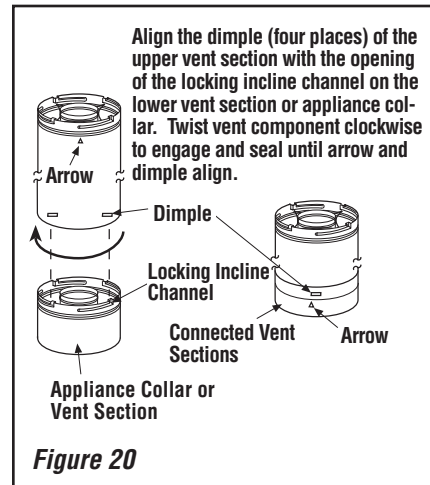

Figure 20
B. Attach vent components to appliance - Secure Vent SV4.5 direct vent system components are unitized concentric pipe components featuring positive twist lock connections (*see Figure 20*). All of the appliances covered in this document are fitted with collars having locking inclined channels. The dimpled end of the vent components fit over the appliance collar to create the positive twist lock connection.
To attach a vent component to the appliance collar, align the dimpled end over the collar, adjusting the radial alignment until the four locking dimples are aligned with the inlet of the four inclined channels on the collar (*refer to Figure 20*). Push the vent component against the collar until it fully engages, then twist the component clockwise, running the dimples down and along the incline channels until they seat at the end of the channels. The unitized design of the **Secure Vent** components will engage and seal both the inner and outer pipe without the need for sealant or screws. If desired a #6 x 1/2" screw may be used at the joint, but it not required as the pipe will securely lock when twisted.
C. Attach vent components to each other - Other vent sections may be added to the previously installed section in accordance with the requirements of the vertical vent Figures and Tables. To add another vent component to a length of vent run, align the dimpled end over the inclined channel end of the previously installed section, adjusting the radial alignment until the four locking dimples are aligned with the inlets of the four incline channels of the previous section. Push the vent component against the previous section until it fully engages, then twist the component clockwise running the dimples down and along the incline channels until they seat at the end of the channels. **This seating position is indicated by the alignment of the arrow and dimple as shown in Figure 20.**
Secure Vent SV4.5 direct vent system components are unitized concentric pipe components featuring positive twist lock connection, (refer to **Figure 20** on **Page 15**). All of the appliances covered in this document are fitted with collars having locking inclined channels. The dimpled end of the vent components fit over the appliance collar to create the positive twist lock connection.